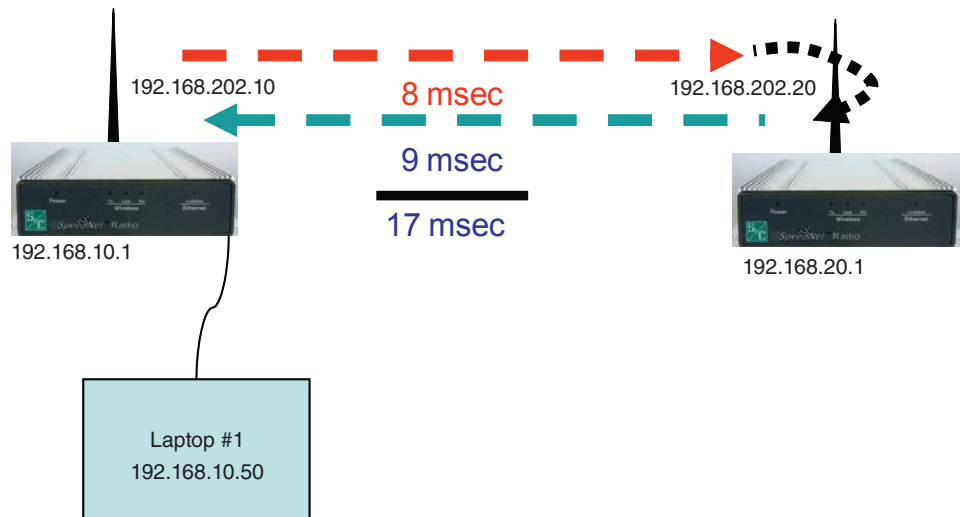

Figure 18. Single link latency test with 300 byte payload.
Step 1. See Figure 18. Open the Windows Command Prompt and verify connectivity to Radio #10 with this command: `C:\Documents and Settings>ping 192.168.20.1 -n 300 -l 300`.